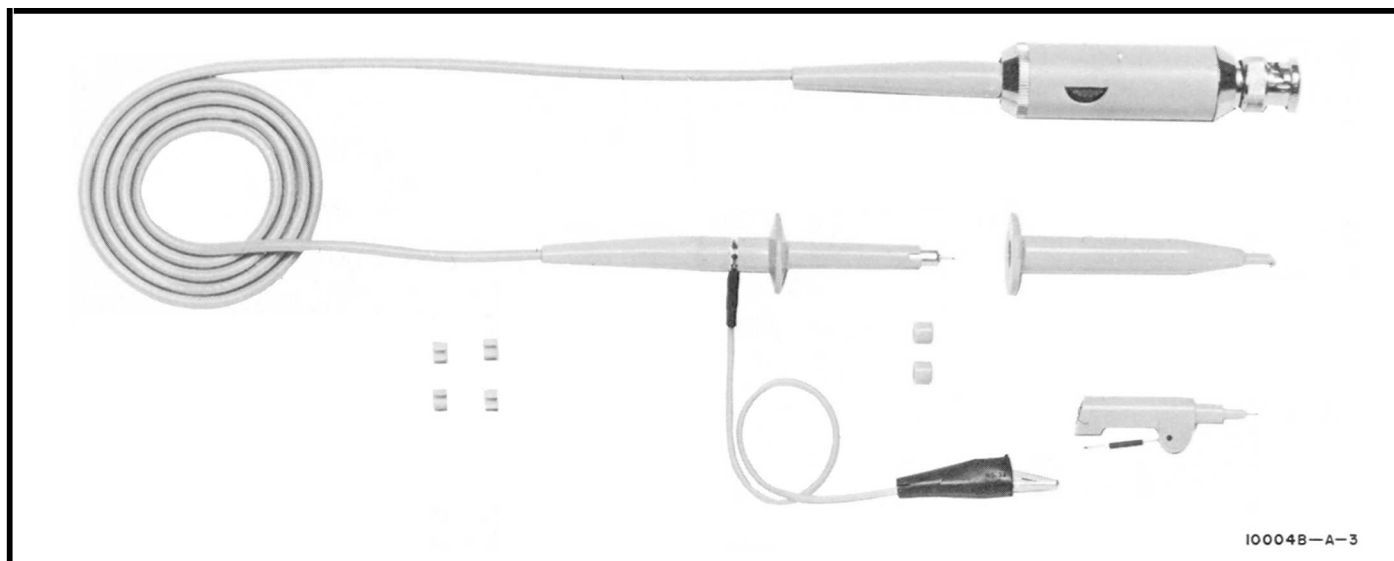

Figure 1. Model 10004B, 10005B, 10006B, 10012B Probes
2. The HP Models 10004B, 10005B, 10006B, and 10012B 10:1 Voltage Divider Probes (Figure 1) provide the low input capacitance and high input resistance required for accurate signal measurements. These probes are designed for use with oscilloscopes having an input resistance of 1 megohm shunted by a capacitance of 17 to 30 pF (30 to 55 pF for Model 10012B). The improved